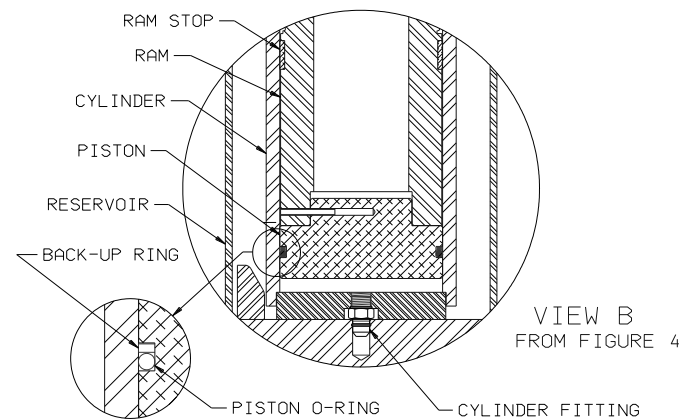

FIGURE 3 – View B from Figure 1
NOTE: Be very careful not to move or loosen cylinder. Jack will not build pressure if cylinder seals are broken. If cylinder is disturbed and seals are broken, see Figure 3 for proper cylinder seal replacement.
3. Remove O-ring and backup ring and replace with new seals in respective places. Reference Figure 3. Be sure to coat O-rings with MIL-PRF-5606 hydraulic fluid before reassembly.